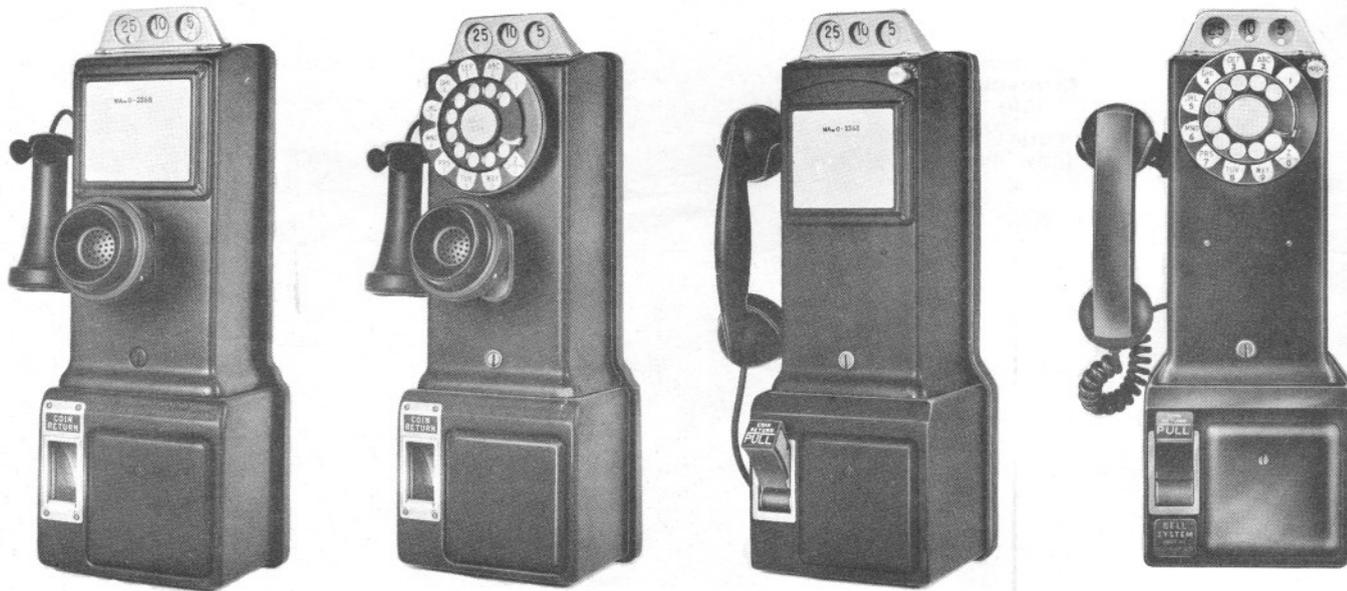

Fig. 1 — Various Types of Coin Collectors
2.03 Since the introduction of the first 50-type coin collectors, they have followed the same basic design. However, they lend themselves to modification, conversion, and interchange of parts to meet changing requirements. The result is the variety of types currently in use (see Fig. 1).
4.05 The P-81C900-type apparatus blank assembly is used to cover the dial cup on coin collectors equipped for manual service. The 50C apparatus blank may be used provided the coin collector is not equipped with washer-reject and coin-release push-button mechanism (see Fig. 1). Apparatus blanks are secured from the rear by three P-242938 screws.